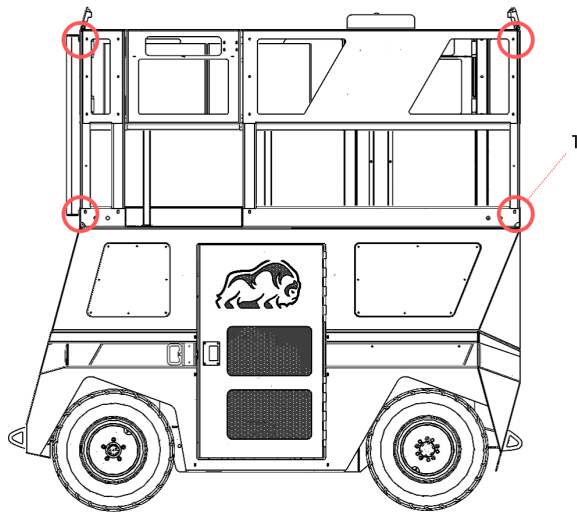

Figure 37. Guardrails.
- Guardrails (1). (see Figure 37).